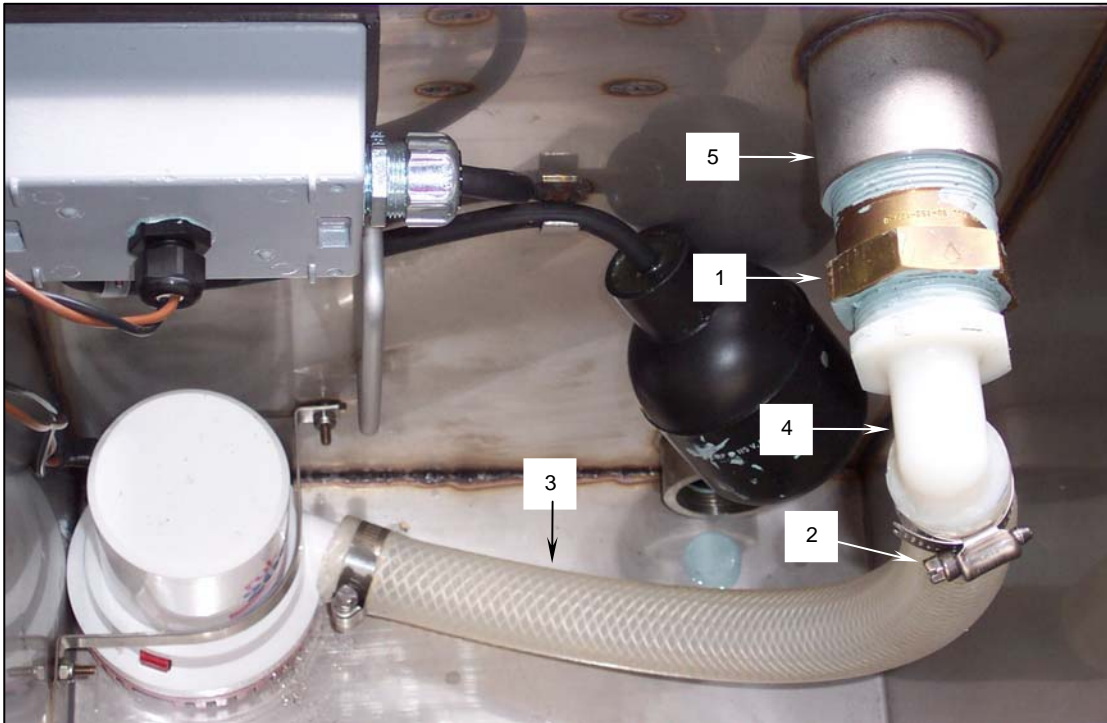

Figure 1. Replacing the Grease Separator Check Valve.
2. Remove the check valve (**Figure 1, Item 1**) as follows:
- a. Loosen the hose clamp (**Figure 1, Item 2**) that secures the pump discharge tubing (**Figure 1, Item 3**) to the hose adapter elbow (**Figure 1, Item 4**). Pull the tubing off the elbow.
- b. Unthread the hose adapter elbow (**Figure 1, Item 4**) from the check valve (**Figure 1, Item 1**).
- c. Unthread the check valve (**Figure 1, Item 1**) from the pipe nipple (**Figure 1, Item 5**).
- a. Apply sealing compound to the external threads of the hose adapter elbow (**Figure 1, Item 4**) and thread the elbow into the new check valve (**Figure 1, Item 1**).
- b. Apply sealing compound to the external threads of the check valve (**Figure 1, Item 1**) and thread the check valve into the pipe nipple (**Figure 1, Item 5**). Make sure the hose adapter elbow (**Figure 1, Item 4**) is pointing down.
- c. Make sure the hose clamp (**Figure 1, Item 2**) is over the pump discharge tubing (**Figure 1, Item 3**), then secure the tubing (**Figure 1, Item 3**) to the hose adapter elbow (**Figure 1, Item 4**) using the hose clamp (**Figure 1, Item 2**).